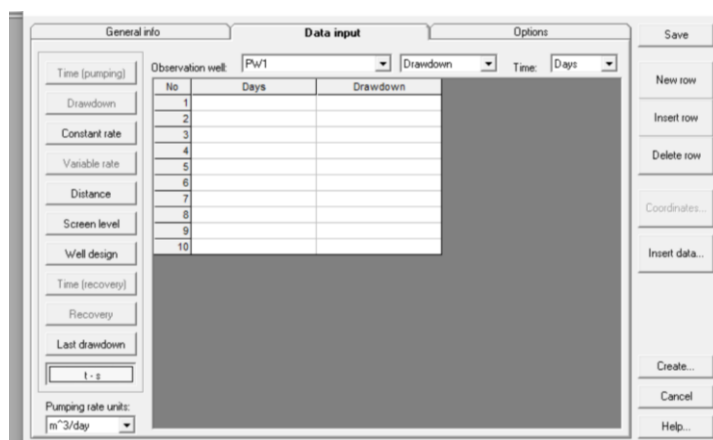
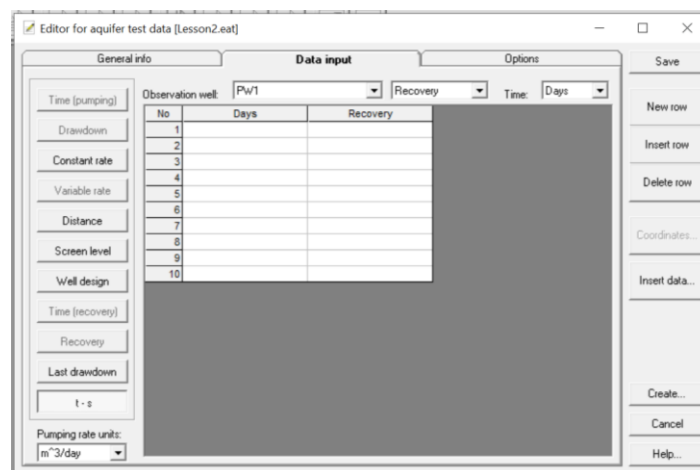

Figure 5. “t-s” table for drawdown observations at PW1
Figure 6. “t-s” table for recovery observations at PW1
- 3) Repeat this process for drawdown in MW1 and recovery in the both wells. Drawdown and recovery tables for PW1 should look the same as on Figure 5 and Figure 6.